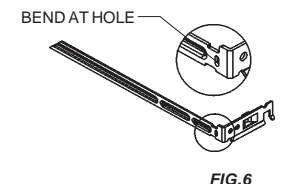

FIG.6
3. Bend Non-hinged end of mounting bar at featured hole location and extend out. (Fig.6)